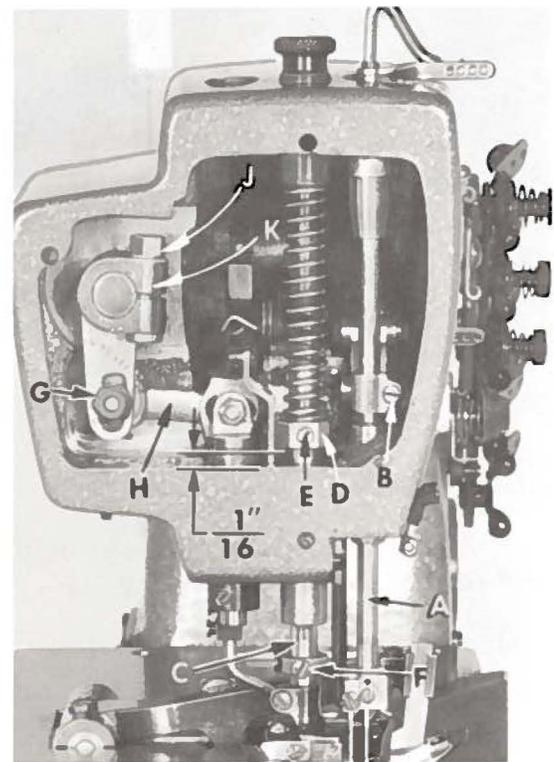
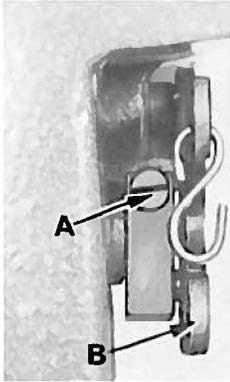

Fig. 4
Fig. 10
Align the needle bar (A, Fig. 4) and set to height, using the proper test pins and test plate of the right gauge. See chart below.
If test plate and test pins are not available, insert a new set of needles (Type and Size as required) and align the needle bar so the needles center in the needle holes of throat plate. To align needle bar, loosen needle bar clamp screw (B, Fig. 4) and turn bar as required. Tighten clamp screw.
The height of the needle bar (A, Fig. 4) is correct when the top of the left 602 stitch needle's eye is $\frac{3}{64}$ inch below the underside of the front looper, when the point of looper, moving to the left, is even with the left side of this needle. If adjustment is necessary, loosen screw (B) and reposition needle bar (A) up or down as required and retighten screw. Care must be taken not to disturb the alignment of the needle bar while making this adjustment, as the needles are to have equal clearance on both the right and left sides of the needle slots in throat plate.
If adjustment is needed, loosen tension release lever screw (A, Fig. 10), located at the back of the machine and move tension disc separator as required. Retighten screw. After adjustment there should be no binding at any point.
The height of the presser bar (C, Fig. 4) is set correctly if it is possible to remove the presser foot when the foot lifter lever (B, Fig. 10) is fully depressed. Also there should be approximately 1/16 inch clearance between lower surface of the presser bar connection and guide (D, Fig. 4) and the bottom surface of head opening in the bed when the foot lifter lever is released and the presser foot resting on the throat plate, with the feed dog down below the throat plate.
Set the presser bar stop collar (F, Fig. 4) so that the presser foot does not contact the spreader when raised.
The arc travel of the spreader should be set at 9/16 inch. Measurement is made by placing a scale between the two extreme spreader arc travel points. Adjustment can be made by loosening nut (G, Fig. 4) and moving the connecting link (H) up or down as required to obtain the desired amount of arc travel. Set the connecting link so that its arc travel is equal distance to the center of its arc. This is accomplished by loosening nut (J) and moving the spreader rocker shaft arm (K) to position the connecting link properly.